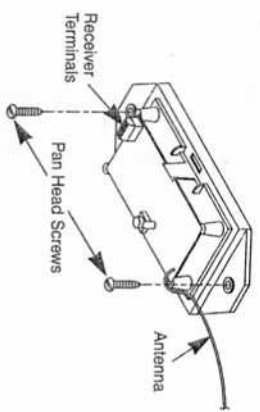

Fig. 2
**Step 2A-3** Mount new Receiver toward door, on wall or ceiling (Fig. 2).
- Use two (2) No. 10 x 1" Pan Head Screws (Not provided).
- Step 2B-1 Mount new Receiver toward door, on wall or ceiling (Fig. 2).**